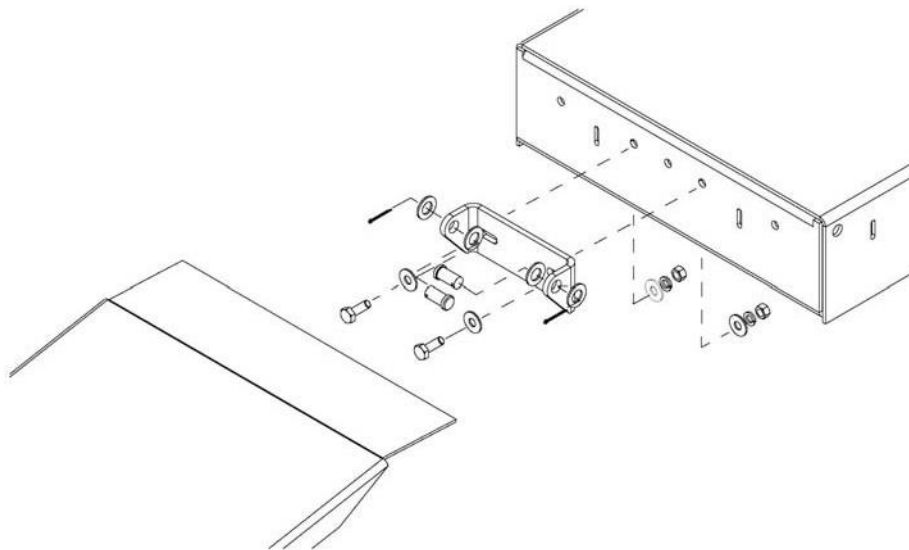

Figure 26 - Approach Ramps Installation
2. Install the mounting bracket and then the rear approach ramps using the Approach Ramp Pins located in the accessory box, and the hex head bolts, flat washers, lock washers, hex nuts and cotter pins located in the hardware kit. (See Figure 26)